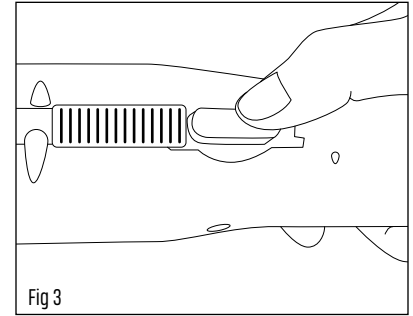

Fig 3
5. Immediately after damp swabbing (to prevent wet powder from drying inside of launcher) follow normal procedure of loading CO2 cartridge into LifeLite™ and dry fire launcher without projectiles. Dry fire launcher until CO2 is depleted. (Fig 3)